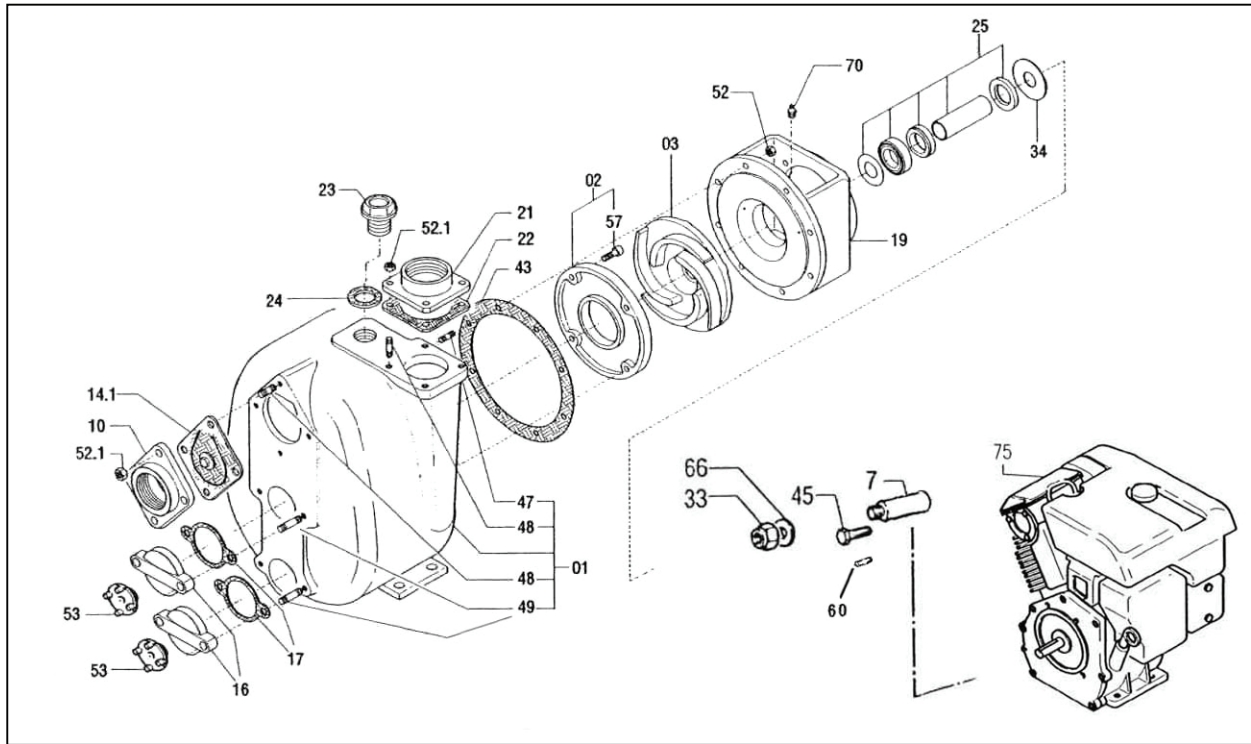

Figure 41
9.3.1 Check Valve Assembly (figure 41, #14.1)
The check valve assembly (figure 41, #14.1) ensures that when the pump is in the off position liquid in the casing does not siphon out of the pump. If the pump casing (figure 41, #01) does not stay completely filled with product after operation, the check valve assembly (figure 41, #14.1) has failed and needs to be replaced. To check to see if the pump is still full of product after operation, unscrew the plug (figure 41, #23) to see if there is product in the casing (figure 41, #01). It is essential that this valve seats completely against the suction port. There is an integral valve weight that also needs to be inspected to ensure that corrosion has not decreased its effectiveness. If the check valve (figure 41, #14.1) is worn and not seating properly, the check valve assembly (figure 41, #14.1) must be replaced (see section 9.4.1). If the valve weight appears to be damaged or is not functioning properly, the check valve assembly (figure 41, #14.1) needs to be replaced (see section 9.4.1).
Another way to inspect the check valve assembly (figure 41, #14) is to unscrew the piping from the suction flange (figure 41, #10) to see if the product leaks out of the pump. If the product is leaking out of the pump, the check valve assembly (figure 41, #14.1) needs to be replaced.